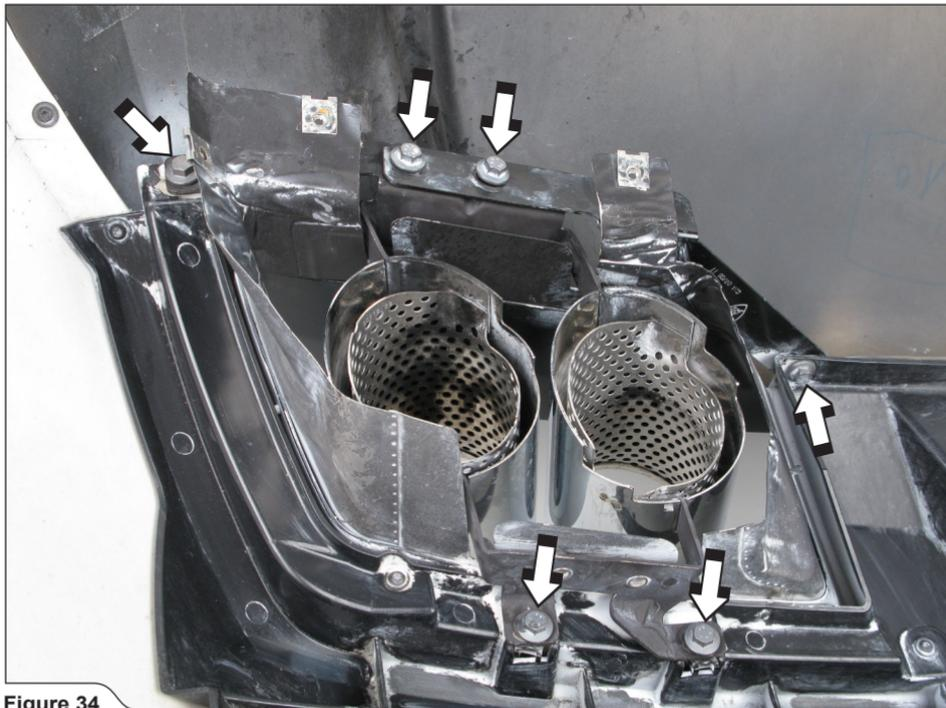

Figure 34
25. Unscrew and remove both tail pipes off the bumper trim panel (Figure 34).